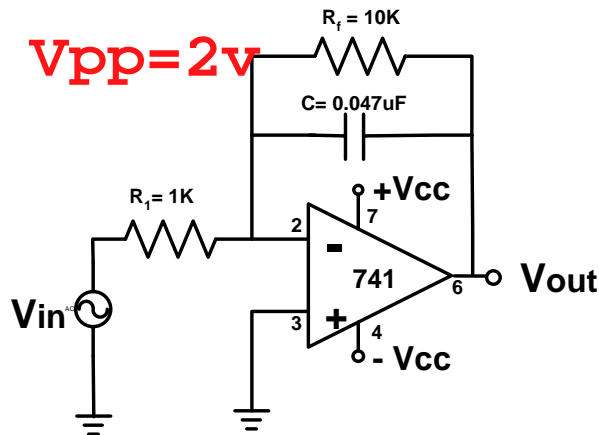

Figure 9: Practical Integrator
- a. Calculate the DC gain and the break frequency f_H for the integrator of Fig.9?
Obtain the frequency response of the integrator of Fig 9 by varying the input signal from 50 Hz to 50KHz. Record in Table 1 V_{in} and V_{out} for each frequency and calculate the gain at each point. Make sure you obtain enough points around your expected f_H and plot it.
Simulate the differentiator and integrator circuits of Figs. 9 and 10.
- b. Apply a square wave with a frequency of 10KHz to the integrator of Fig 9 and perform a transient analysis.